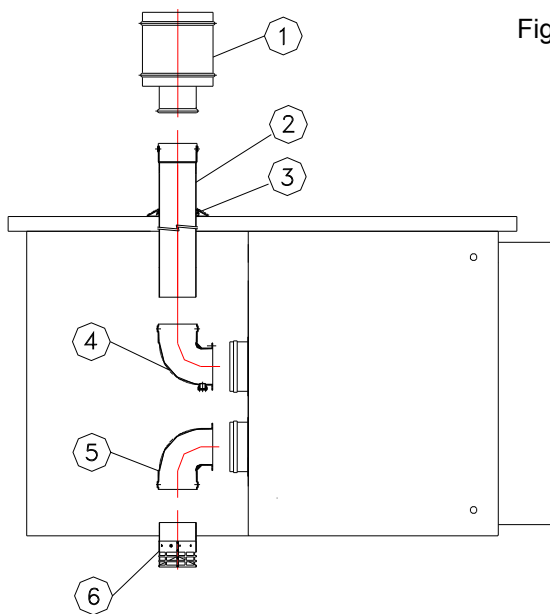

Fig.27
- ✓ Insert the silicone rubber roof flashing (3) on the straight tube section.
- ✓ Insert the stainless steel flue gas outlet terminal (1)
Heaters feature a special intake terminal on the air intake. It can either be ready-fitted on the heater or it can consist in a suitably perforated box or a kit to be fitted by the installer, made up of components (5) and (6) in fig. 27.